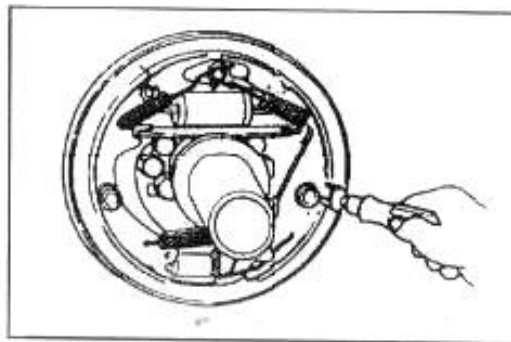

Fig 6-7
(1) Remove the fixed spring of secondary brake shoe, and take off the adjusting lever, top lever, and the top lever return spring (Fig 6-7);